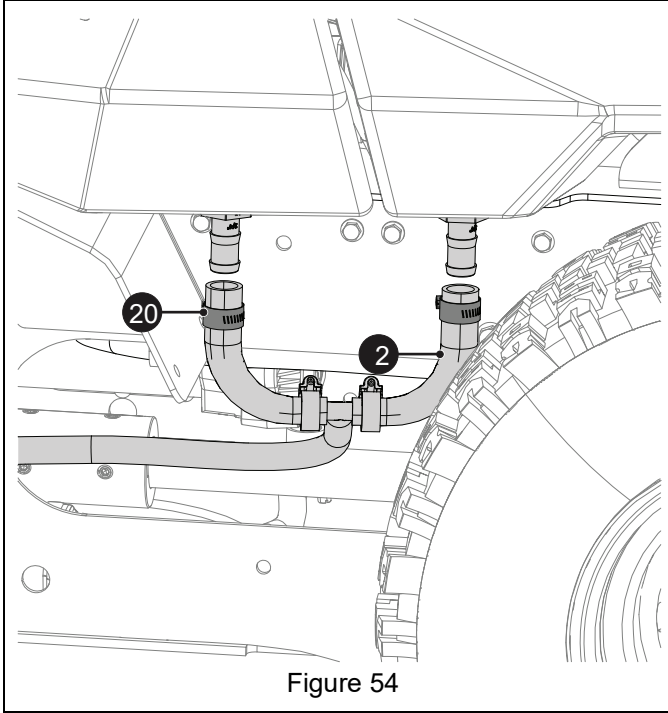

Figure 54
78. Install two #12 x 3/4" hose clamps (item 20) onto tank drain hoses and connect hoses (item 2) to tank fittings. Tighten hose clamps. See Figure 54.